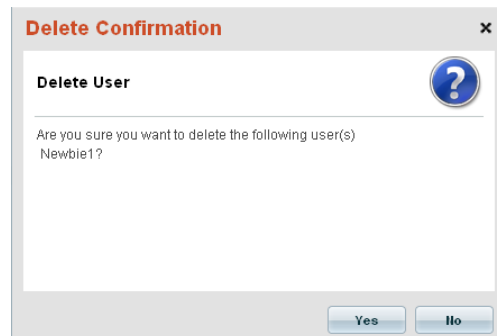

FIG. 304 Delete Confirmation dialog - User
3. The system will prompt you to verify this action before the user is deleted, via the *Delete Confirmation* dialog (FIG. 304):